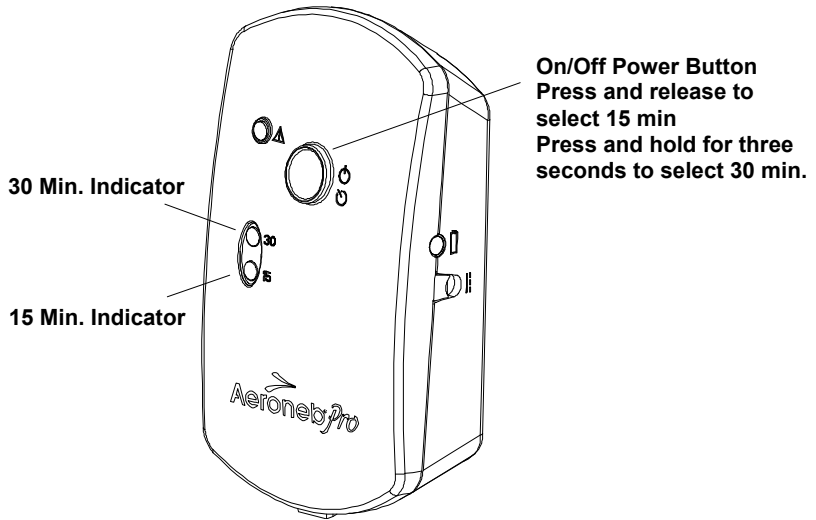

Figure 17: Starting and stopping nebulization
1. To start a 15 minute nebulization cycle, add the medication and press and release the blue On/Off power button (Figure 17). The green *15 Min.* indicator lights to indicate that the 15 minute nebulization cycle is in progress.